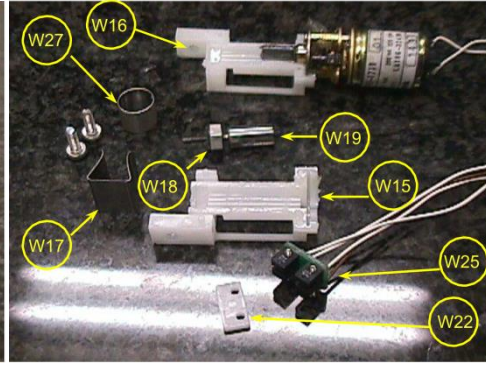

Fig.23
- Detach the Binding spring (W17) and the Fixed ring (W27) using tweezers and split the Drive case assy,cal wt (W15,W16) into two. Detach the mini-motor (with gear head), Nut,clamp (W18) and Screw,clamp (W19)(Fig.23).